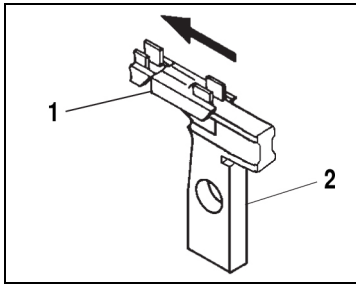

Fig. 20: Clip Guide Anvil Replacement 2
6. Remove the two screws (7; 8), and replace the clip guide anvil if required (Fig. 20).